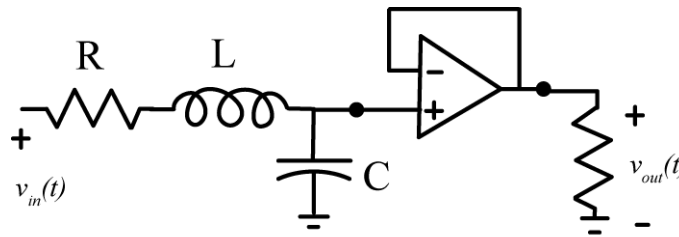

Figure 14. Our second order system
2) Modify your circuit so the plant and isolation amplifier is as shown in Figure 14. Again the resistor is  $1\text{ k}\Omega$ , but the capacitor is a  $0.01\ \mu\text{f}$  capacitor, and the inductor is a  $33\text{ mH}$  inductor (we've used the inductor and capacitor before in Lab 2).